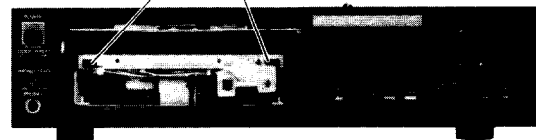

Figure 18
4. Lift disc tray up with hool (L) pushed, the disc tray will be removed. (See Figure 18)